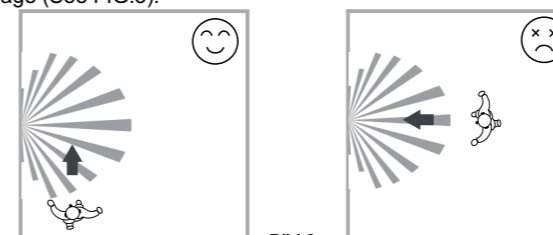

Bild 3
3.1.2 Pay attention to the walking direction in the test proceeding. It is more sensitive to movement across the detector and less sensitive to movement directly toward to detector which will reduce the detection coverage (See FIG.3).